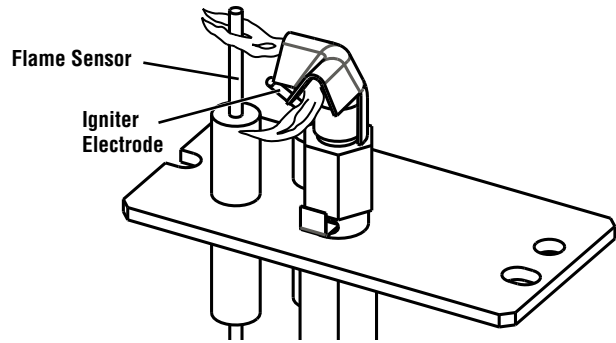

Figure 34 - Proper Pilot Flame Appearance
- ☐ Periodically inspect the pilot system for proper flame. Turn the pilot ON/Auto switch to the ON position. Ensure the igniter lights the pilot. The pilot flame should engulf the flame sensor as shown in **Figure 34**. See *Intermittent/Standing Pilot Mode* on **Page 24** for instructions on switching from intermittent ignition to a standing pilot.